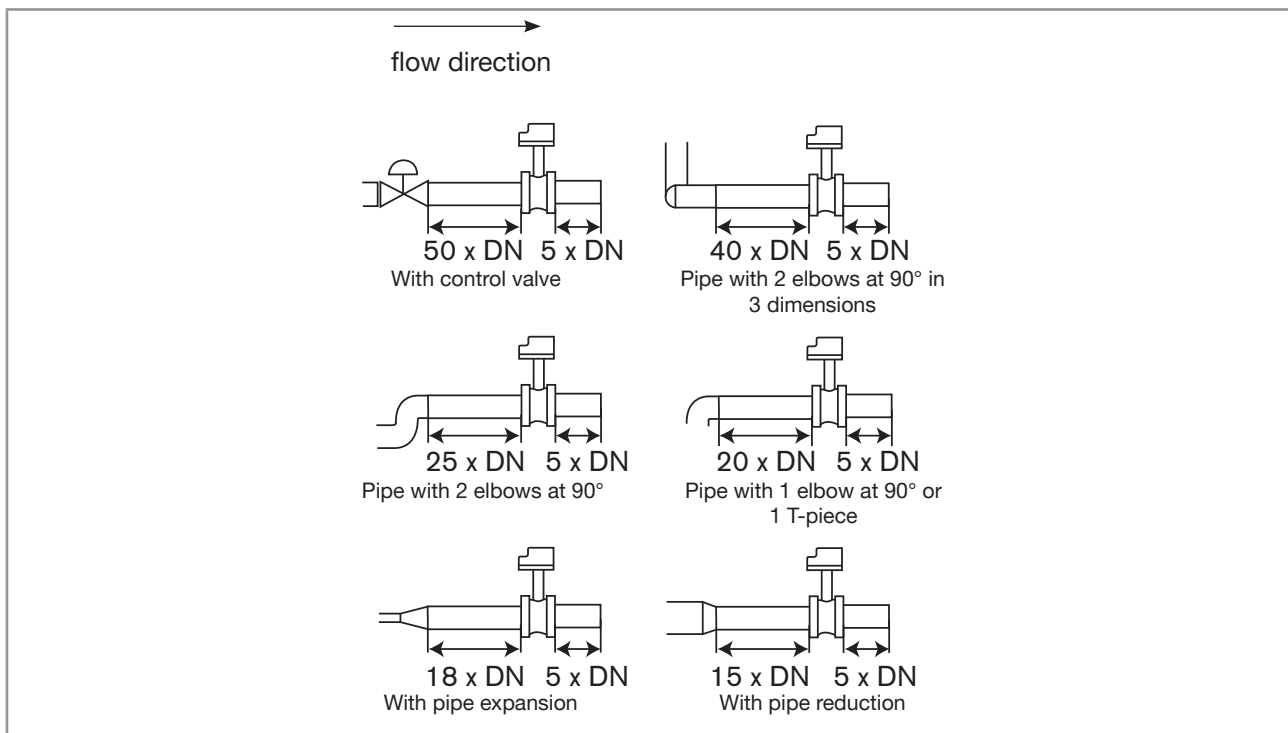

Fig. 4: Upstream and downstream distances depending on the design of the pipes
- the upstream and downstream distances are respected according to the design of the pipes, see Fig. 4 and norm EN ISO 5167-1,
- the upstream and downstream distances are respected according to the design of the pipes, see Fig. 4, chapter 7.2.1 and norm EN ISO 5167-1,